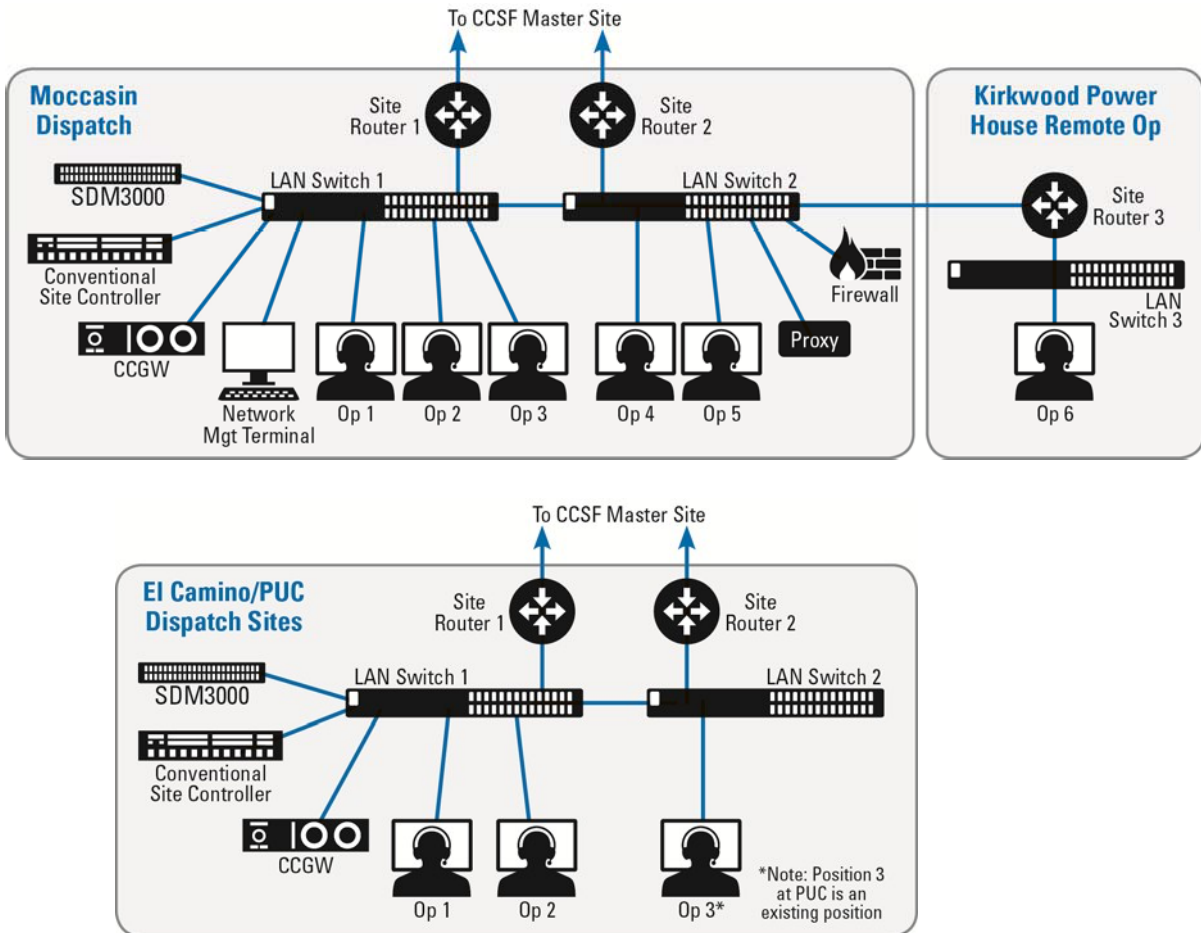

Figure 4-12: Radio System Infrastructure with Motorola MCC 7100 Consoles Block Diagram
The SFPUC system offers SFPUC Eleven (11) total MCC 7100 Dispatch Consoles at four different locations to interface with the San Francisco ASTRO 25 system and communicate on the SFPUC sites (Figure 4-12). Table 4-7 outlines the number of consoles and their location.